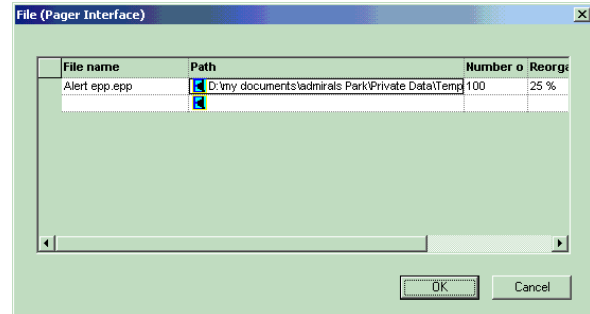

Fig. 7-42
2. In the "File (Pager interface)" dialogue (see Fig. 7-42), click on the icon under "Path" and enter the path and filename for the EPP file. Note the file extension .epf.
2. In the "File (Pager interface)" dialogue (see Fig. 7-42), click on the icon under "Path" and enter the path and filename for the EPP file. Note the file extension .epp.